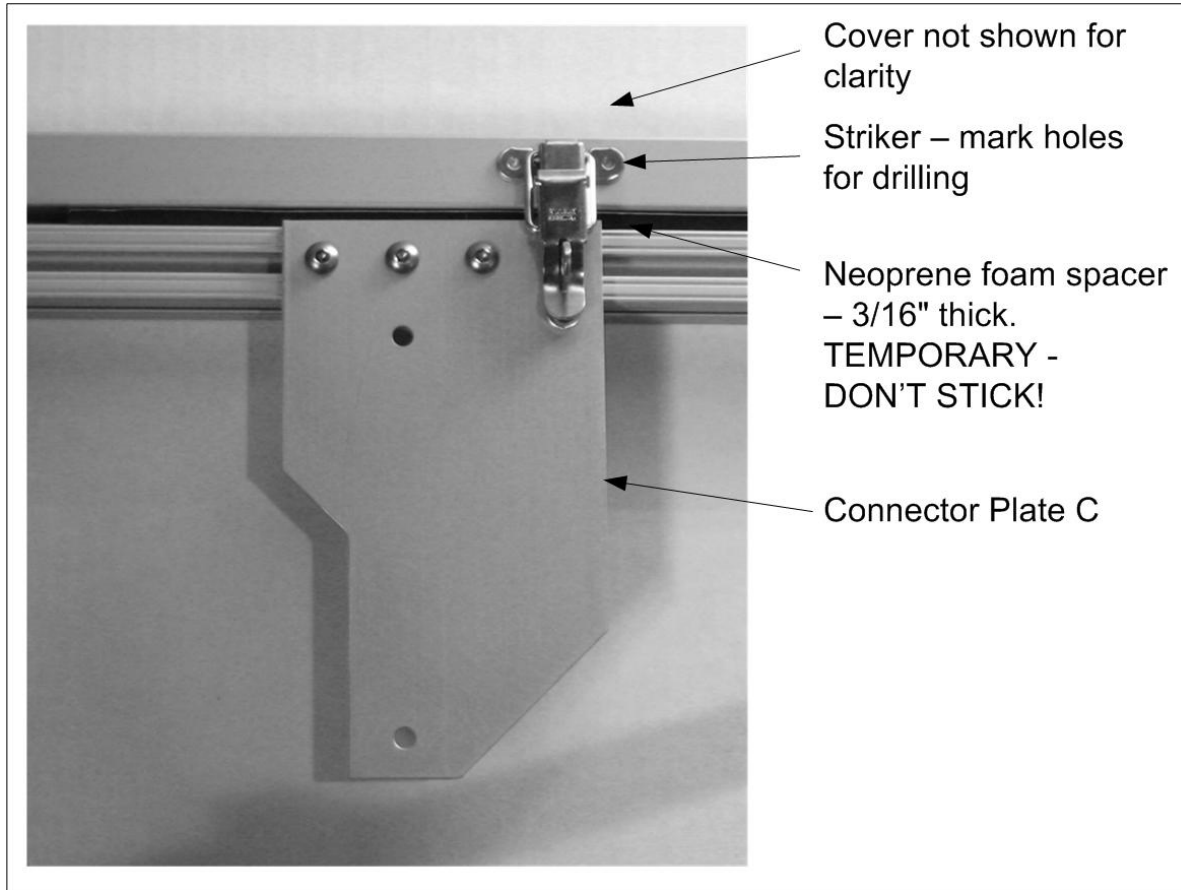

Figure 52
The Neoprene Foam should be cut into (4) equal lengths. **DO NOT REMOVE THE PAPER BACKING.** Each piece of foam, including the paper backing should be used as a temporary spacer to set the correct height of the cover frame for installing the striker. See Figure 52.
Install the foam board by cutting to size and notching as required. Cut holes for the anchor bolts using a hole saw if available. Press into place. See Figure 52.